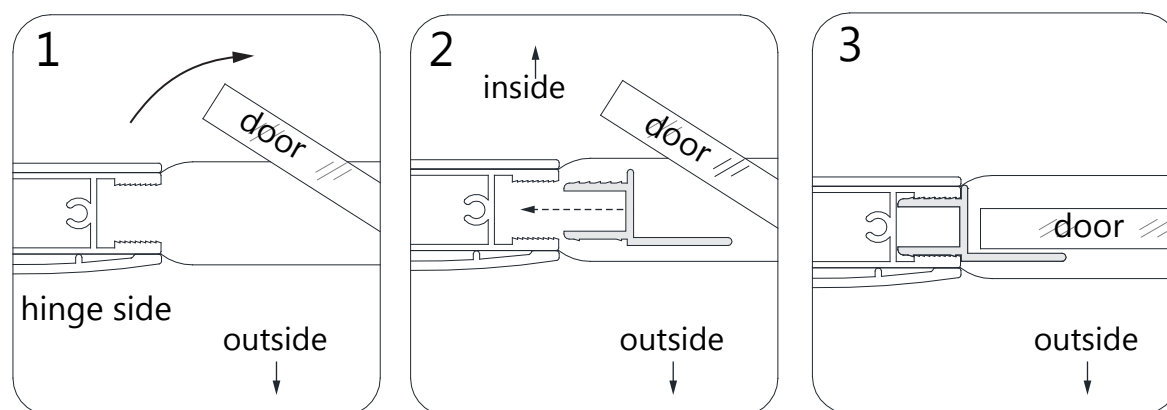

Fig 10
10. Firmly push the shorter **Snap-In Anti-Water Strip (#10)** into the vertical groove of the **Glass Profile for Door Glass (#02)**. (Fig 10)
- When installing the single door model, use both of the **Snap-In Anti-Water Strips (#10)** (Fig 10 & Fig 11) included with the **Door Glass** that snap into the **Glass Profiles**, (snap the shorter one into the hinge side glass profile and the longer one into the strike side glass profile).